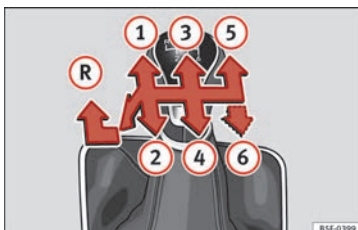

Fig. 52 Gear shift pattern of a 5 or 6-speed manual gearbox
The position of the gears is indicated on the gearbox lever »» **Fig. 52.**
- With the gearbox lever in neutral, push it upwards, move it to the left as far as it will go and then forwards to select reverse » Fig. 52 R.